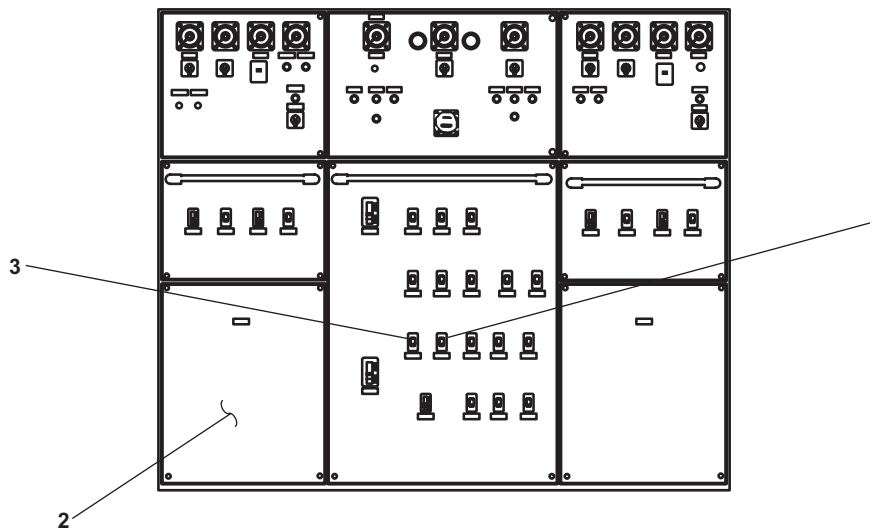

Figure 1. Main Switchboard Circuit Breakers
1. Set to ON the AUX MACH SPACE NO. 1 PWR PNL NO. 4 circuit breaker (figure 1, item 1) at the main switchboard (figure 1, item 2) in the Enclosed Operating Space (EOS).